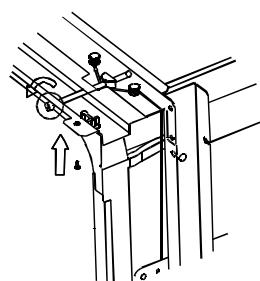

Fig. 26
- b) In the case of a wooden work desk, put the screws through holes in the upper side and fix them into the work desk (Fig. 26).